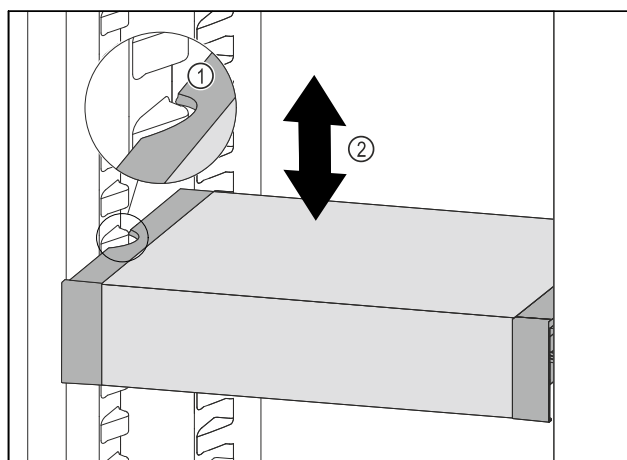

Fig. 145
- Pull VarioSafe forwards until the recesses in the side of the VarioSafe are at the level of the support rib in the refrigerator compartment. Fig. 145 (1)
- Move VarioSafe up or down in the refrigerator compartment until the desired height is reached. Fig. 145 (2)